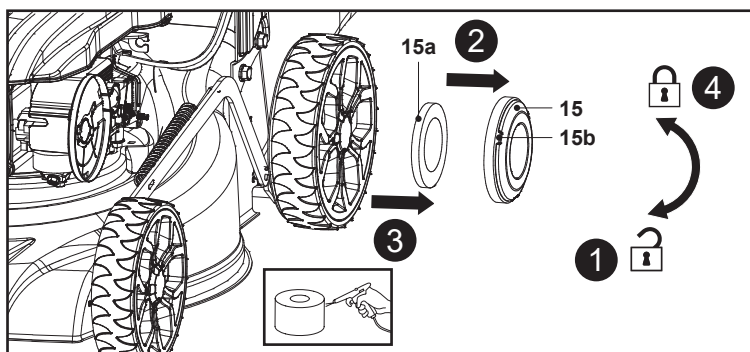

Fig. 24
2. Hold and rotate the air filter cover (15) anti-clockwise to disengage it, then remove it afterwards (Fig. 24, steps 1, 2).
3. Remove the air filter (15a) from the air filter base and tap it on a solid surface or blow it with air jet gun to remove dust (Fig. 24, step 3).
5. Align the three locking latches (15b) with the slots on the air filter base and refit the air filter cover (15), then rotate it clockwise to secure (Fig. 24, step 4).